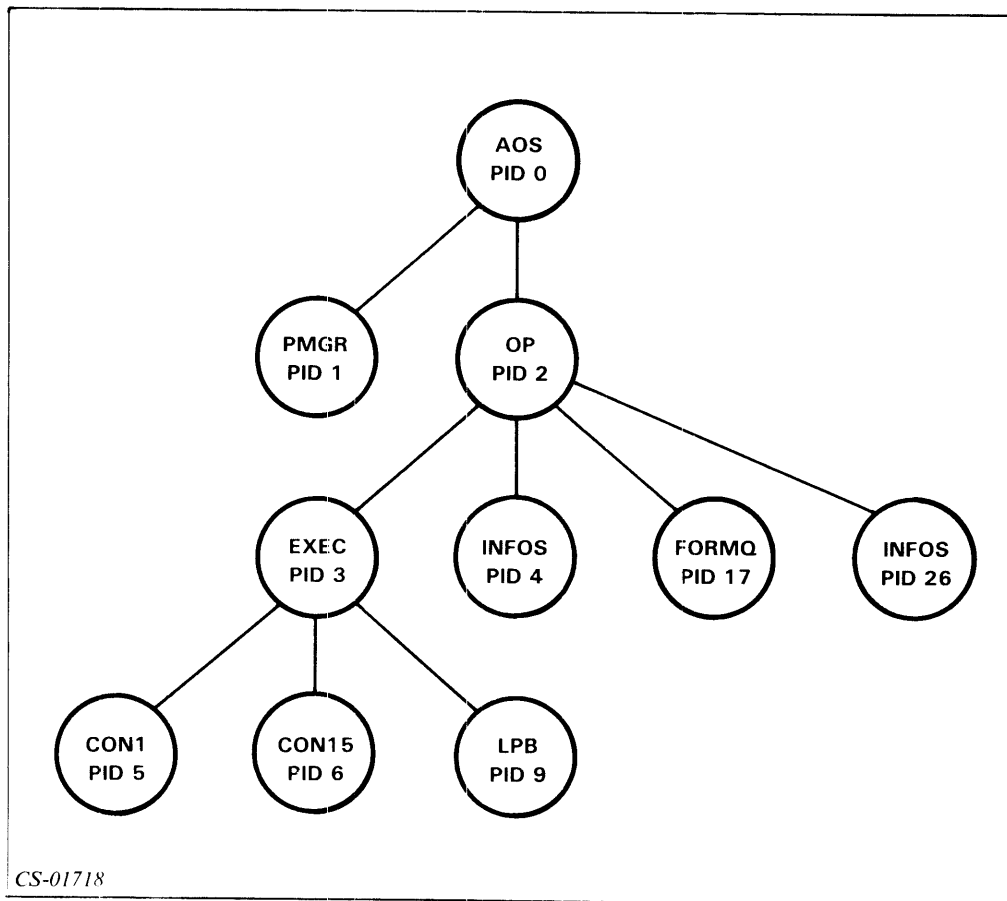

Figure 10.22 Module 10: Quiz Answers
- 22. Your system hierarchy should resemble that shown in Figure 10.22. They will not be identical, because each system is unique.